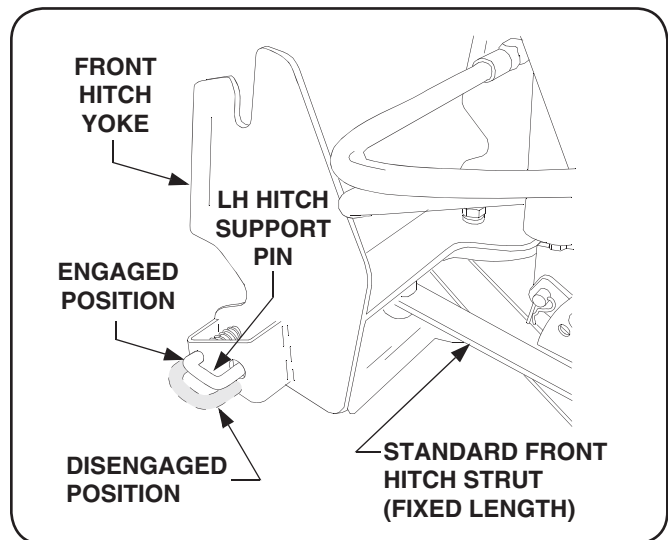

Figure 4-6
- Make certain the support pins at the bottom of the front hitch yoke are in the engaged position (through holes in yoke). See Figure 4-6.